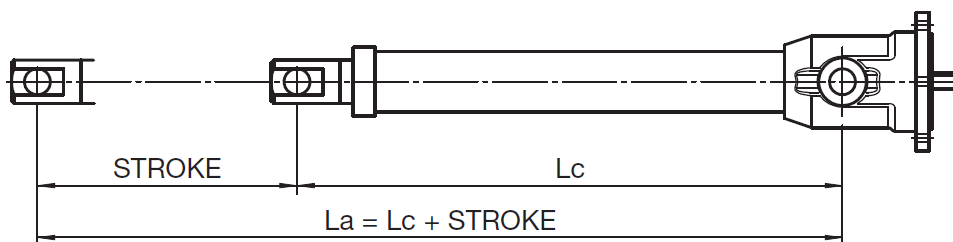

Figure 6.9 – “Lc” and “La” dimensions
- The activation positions of the two limit switches are the extreme travel positions Lc and La (see Fig. 6.9).
- Check if the extreme dimensions of the actuator “Lc” and “La” (see Fig. 6.9) are compatible with extreme positions of the plant component that has to be moved.
- Before to start relubrication, put the actuator in extended position (La – see Fig. 6.9)